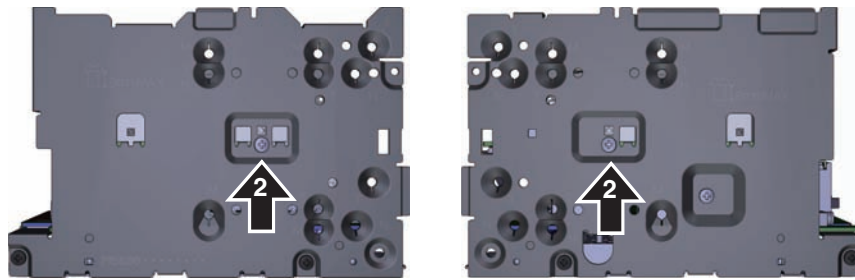

Fig.11
- ➔ 2 Remove the two screws and then remove the IF PCB.(Fig.11)